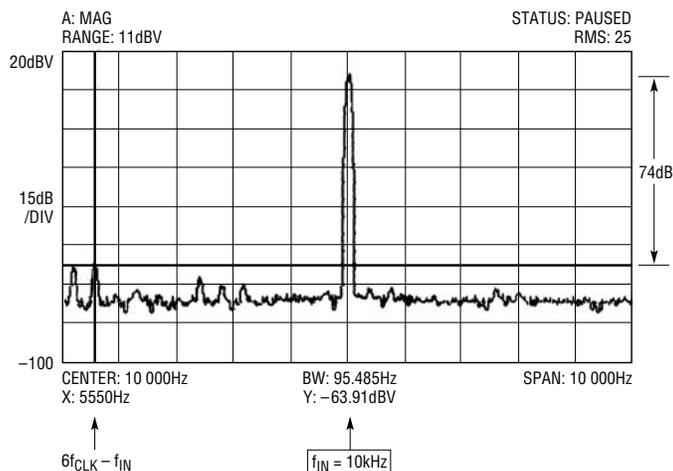
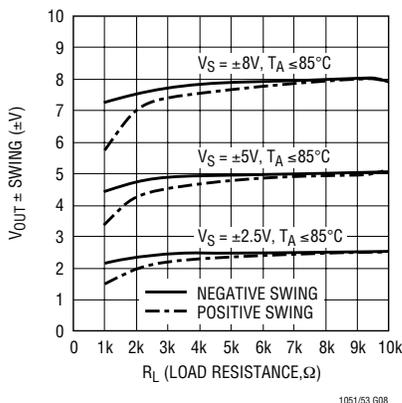

Figure 5b. Same as Figure 5a, but the AC Input Signal is 900mV, 10kHz
Figure 8. Output Voltage Swing vs Load
Although initially chopper stabilized op amps were designed to minimize DC offsets and offset drifts, the LTC1051/LTC1053 family, on top of its outstanding DC characteristics, presents efficient AC performance. For instance, at single 5V supply, each op amp typically consumes 0.5mA and still provides 1.8MHz gain bandwidth product and 3V/ μ s slew rate. This, combined with almost distortionless swing to the supply rails (Figure 8), makes the LTC1051/LTC1053 op amps nearly general purpose. To further expand this idea (the “aliasing” phenomenon) which can occur under AC conditions, should be described and properly evaluated.
3. The number of alias signals increases when the input signal frequency increases (Figure 5b).
4. When the frequency, f_{IN} , of the input signal is less than f_{CLK} , the alias signal(s) amplitude(s) directly scale with the amplitude of the incoming signal. The output “signal to alias ratio” cannot be increased by just boosting the input signal amplitude. However, when the input AC signal frequency well exceeds the clock frequency, the amplitude of the alias signals does not directly scale with the input amplitude. The “signal to alias ratio” increases when the output swings closely to the rails. (See Figure 5b and Figure 7.) It is important to note that the LTC1051/LTC1053 op amps, under light loads ($R_L \geq 10\text{k}$), swing closely to the supply rails without generating harmonic distortion (Figure 8).